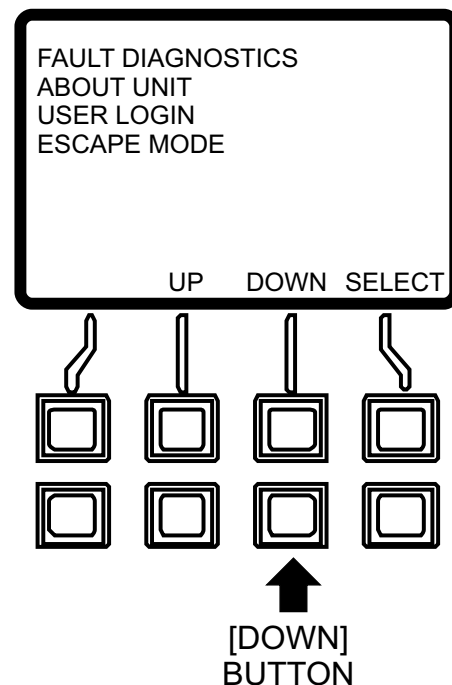

Figure 85. Main Menu (Down Button)
4. Press the **[DOWN]** button (Figure 85) to scroll to the Escape Mode item.